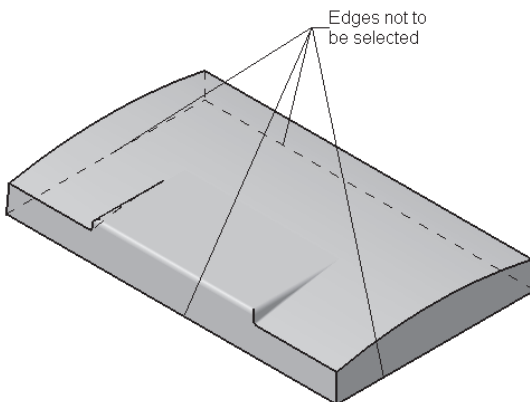

Figure 6-98 Edges not to be selected
8. Select all the edges of the model, except the edges shown in Figure 6-98, and set the value of the **Radius** spinner to **5**.